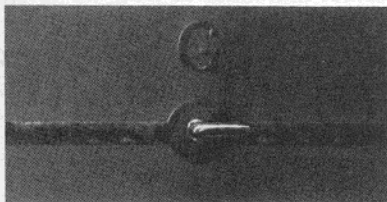

Fig. 7.11 Component Lead Bending
3. Leads should be bent in the direction of the run connected to the pad and clipped at a length approximately $\frac{1}{8}$ " (Fig. 7.11).